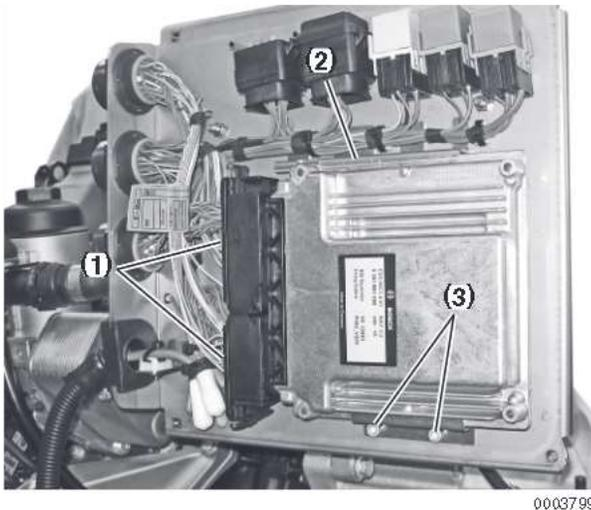

Figure 12-23
3. Disconnect two electrical connectors (**Figure 12-23, (1)**) from ECU.
4. Remove screws securing the upper ECU retainer (**Figure 12-23, (2)**).
5. Loosen the lower attaching screws (**Figure 12-23, (3)**) and remove the ECU.